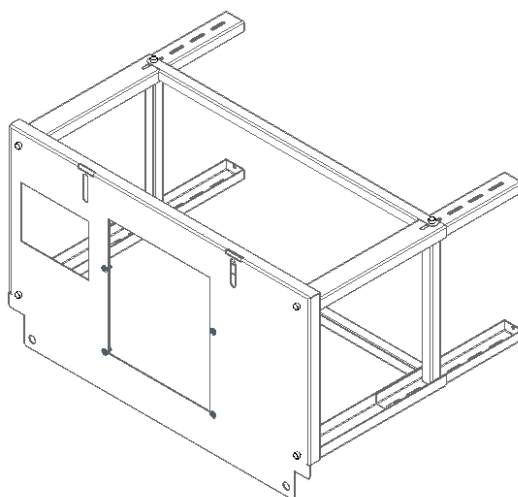

Figure 5 - Auxiliary table assembly
3. The process should be repeated for the other three legs, Figure 5.